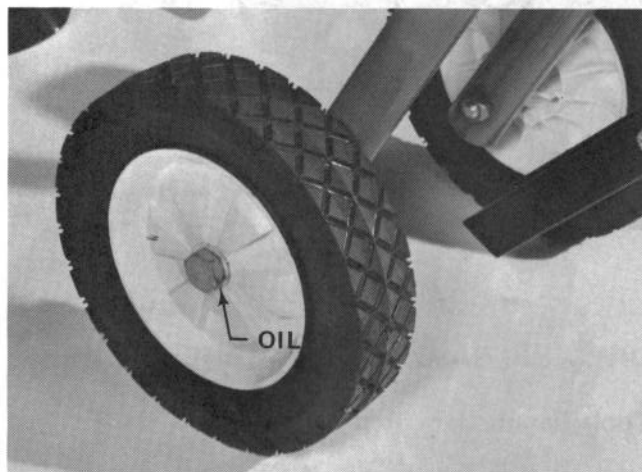

Figure 24
1. Clean area around wheel bushings with rag. Lubricate wheel bushing with a few drops of oil (Fig. 24). Spin wheels to distribute the oil, and wipe up any excess oil.